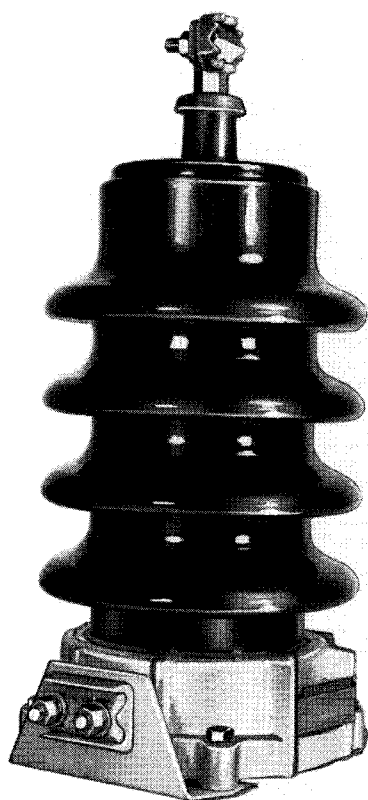

FIG. 3. Porcelain Top Arrester
(1) **Arrester Units.** These are the porcelain housings, containing the operating parts. Each unit is an arrester in itself. Units rated 20-37 kv have metal fittings at each end. The standard arrester rated 3-15 kv have porcelain tops Fig. 3. Units rated 3-15 kv having metal end fittings are available for use in arresters of our standard ratings. The porcelain top units should not be used in arrester poles consisting of more than one unit.